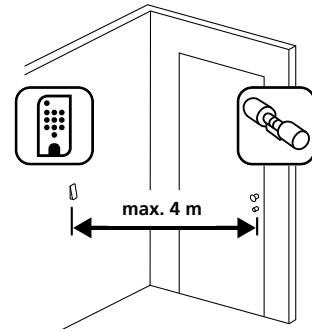

Fig. 1
- 1 Place the keypad in the desired installation location (Fig. 1).